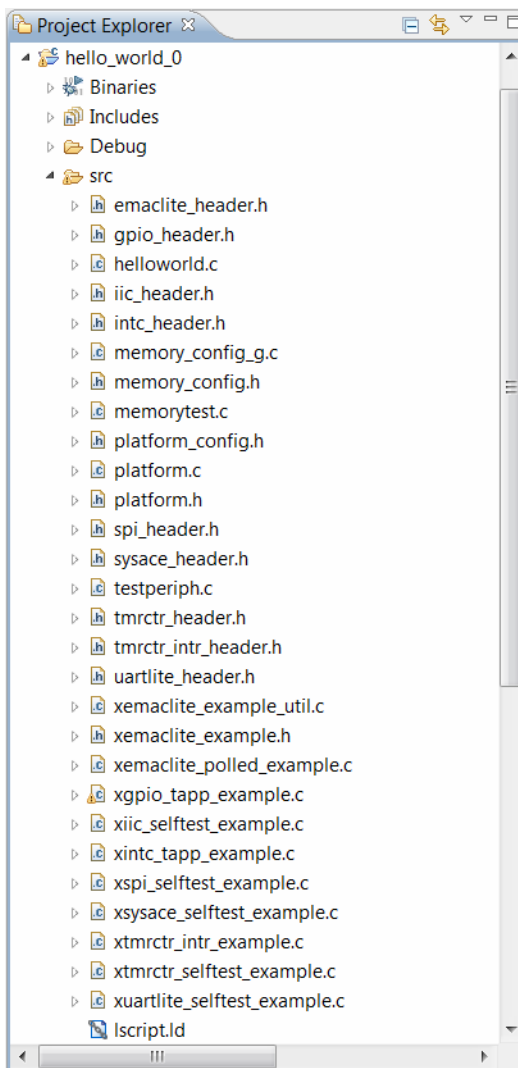

Figure 5-4: Source Files in `hello_world_0`
7. Drag and drop source files from `memory_tests_0` and `peripheral_tests_0` into the `src` subfolder of the `hello_world_0` folder. Figure 5-4 shows the source files that the directory should contain.